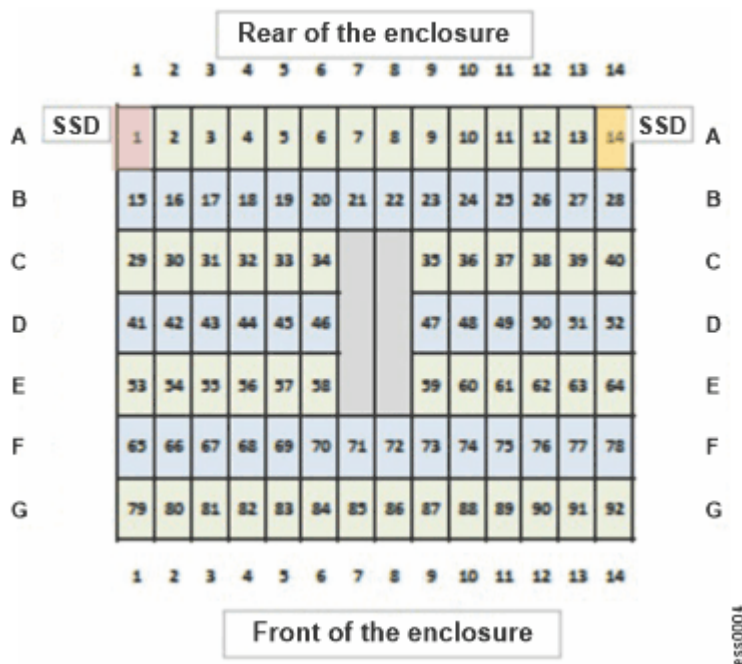

Figure 31. Drive locations in a Model 092 expansion enclosure
A label on the enclosure cover (Figure 31 on page 51) shows the drive locations in the enclosure. The drive slots are numbered 1-14 from left to right and A-G from the back to the front of the enclosure.
**Note:** In an ESS building block, only the primary enclosure has two SSDs. See Figure 31 on page 51 where SSDs are placed at locations 1 and 14. All other non-primary enclosures have only HDDs at all locations.